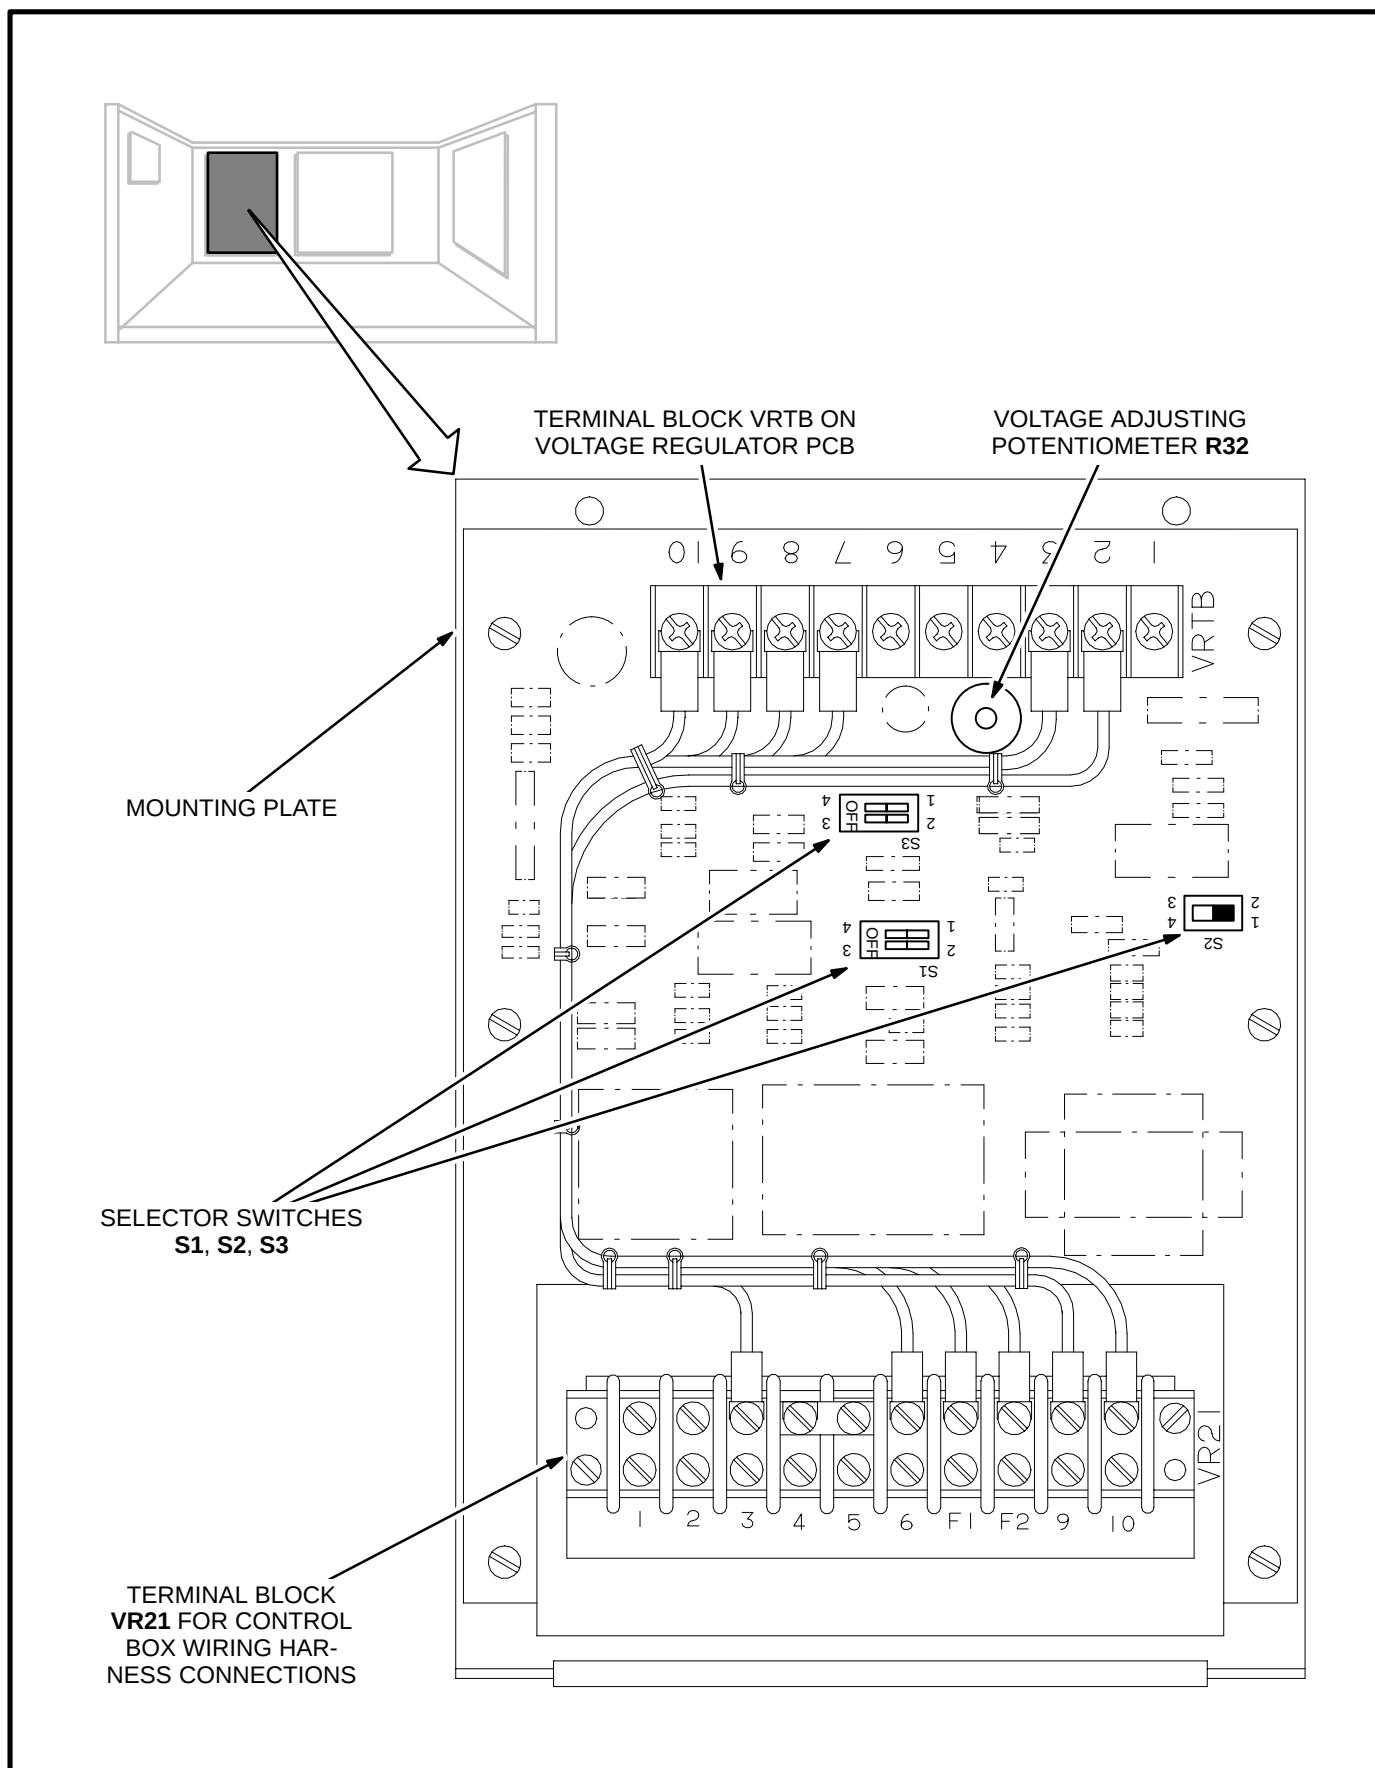
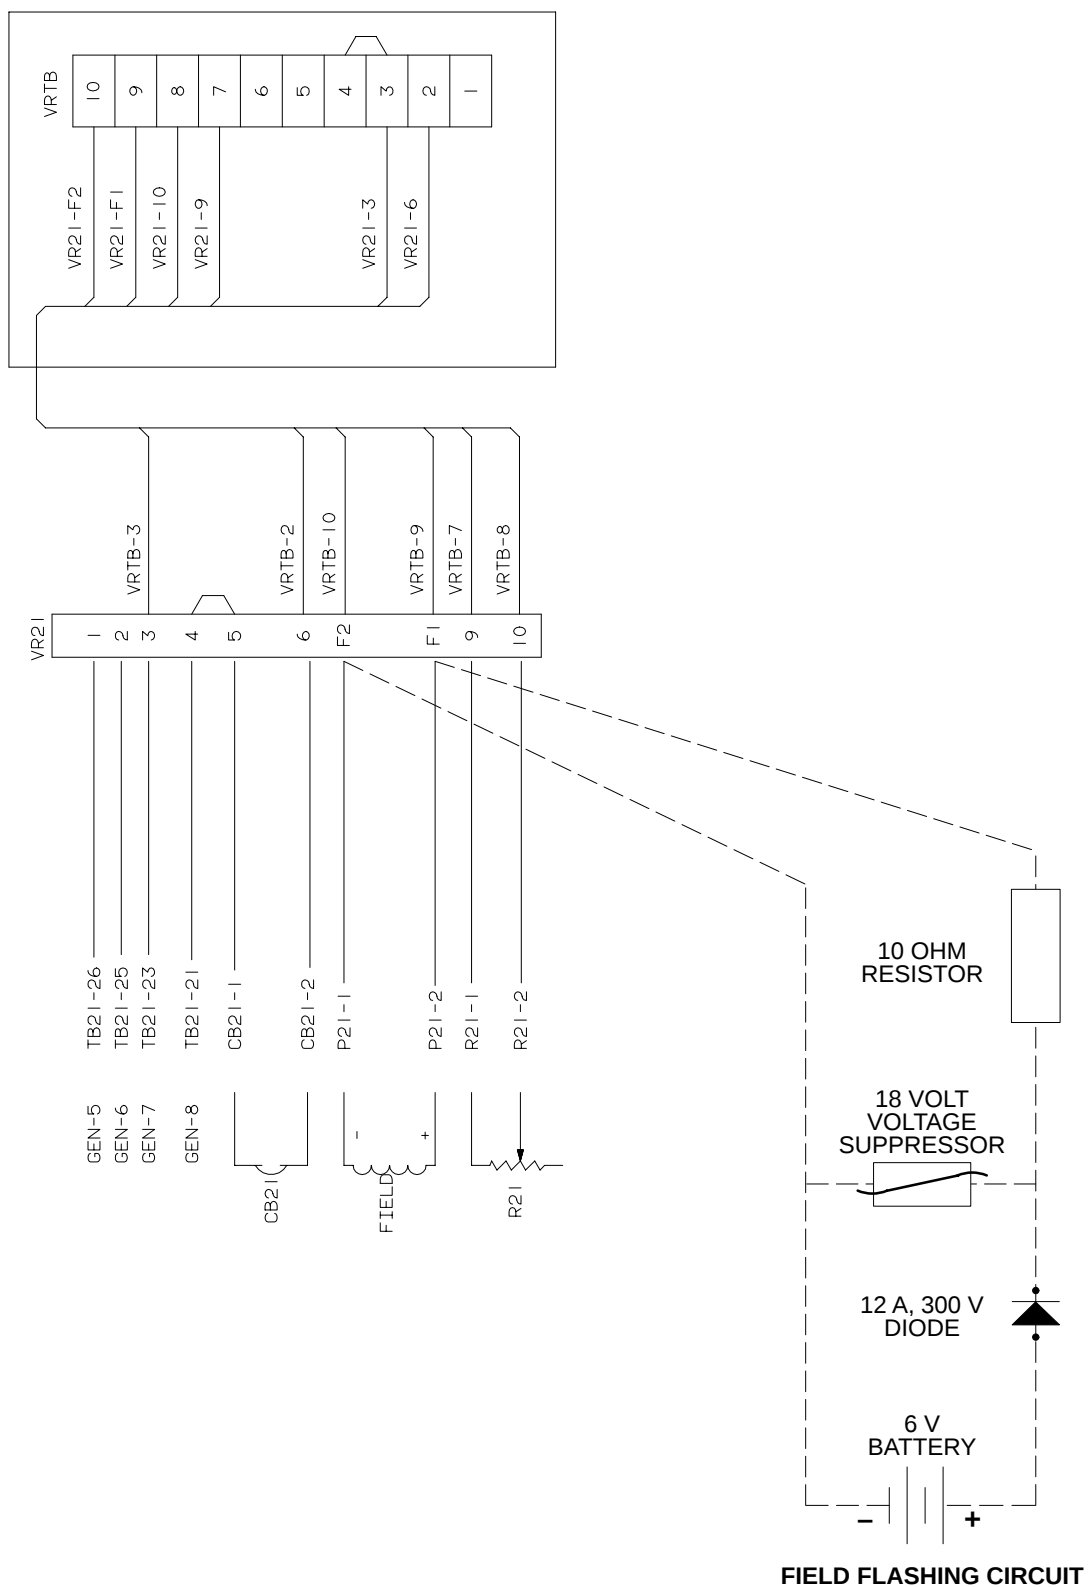

FIGURE 2-4. VOLTAGE REGULATOR TERMINALS, SELECTOR SWITCHES AND VOLTAGE ADJUSTING POT
FIGURE 2-5. VOLTAGE REGULATOR CONNECTIONS AND FIELD FLASHING CIRCUIT
Figure 2-4 shows the terminals, the three selector switches and the voltage adjusting potentiometer on the voltage regulator board. Figure 2-5 shows the connections.
1. Assemble a 6 volt battery, 10 ohm resistor and 12 amp, 300 volt diode and 18 volt voltage suppressor as shown in Figure 2-5.